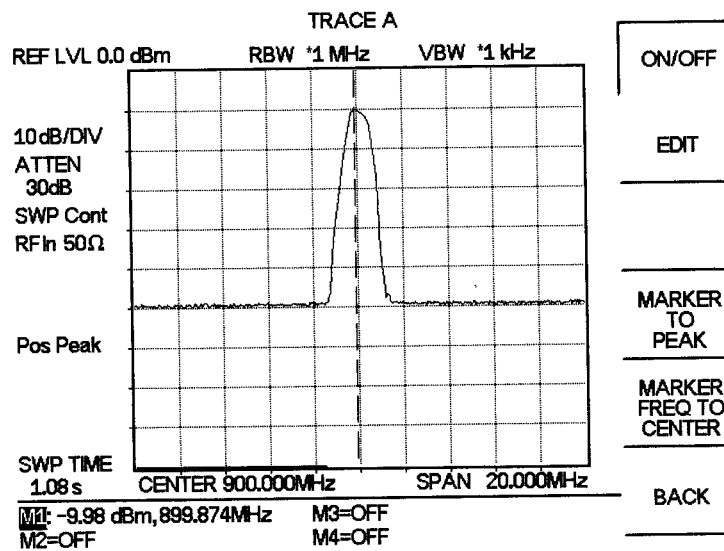

Figure 2-11. Activated Normal Marker
The marker reads both the frequency and the amplitude, and it displays these values in the message area at the bottom of the display. In this case, the marker will read 900 MHz and -10.00 dBm, as shown in Figure 2-11.
- Step 4.** Read both frequency and the amplitude values identified by the selected marker. These values are displayed in the message area at the bottom of the display (Figure 2-11). The current marker is highlighted.